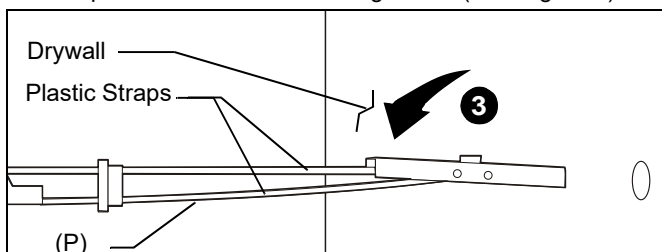

Figure 7
3. Hold metal channel on anchor (P) flat alongside plastic straps and slide channel through hole. (See Figure 7)